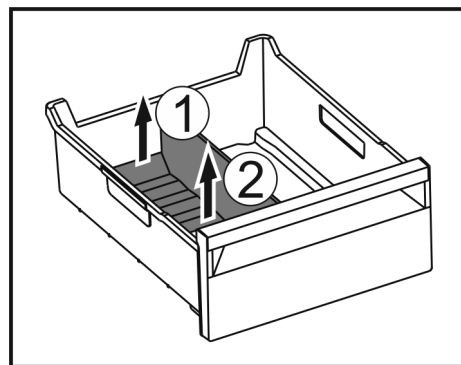

Fig. 160
- Lift the rear part of the ice compartment divider. Fig. 160 (1)
- Remove the ice compartment divider upwards. Fig. 160 (2)